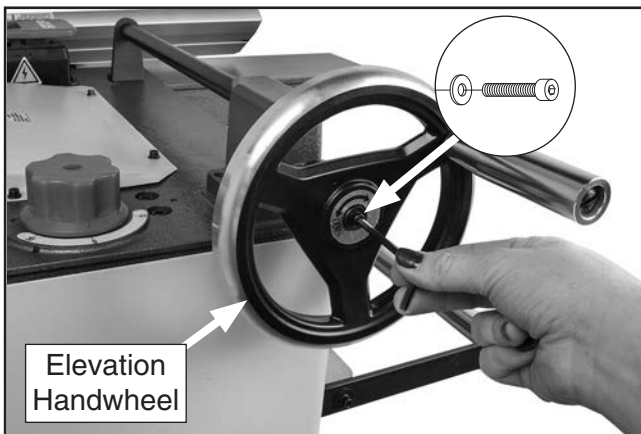

Figure 10. Installing planer elevation handwheel.
1. Install planer elevation handwheel (see **Figure 10**) with pre-installed M5-.8 x 20 cap screw and 5mm flat washer.